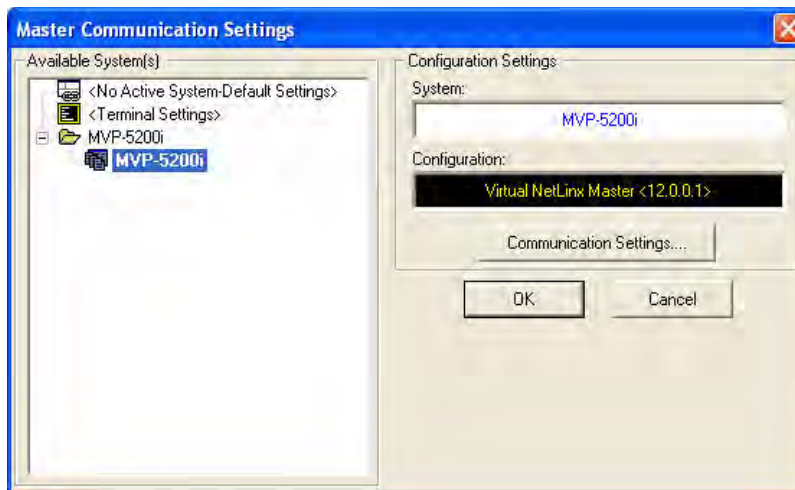

FIG. 89 Master Communications Settings dialog box
1. Launch NetLinx Studio 2.x and select **Settings > Master Communication Settings** from the Main menu to open the *Master Communication Settings* dialog (FIG. 89). If this is the first time the device needs to be configured, refer to the *Configuring Modero Firmware via the USB Port* section on page 186.